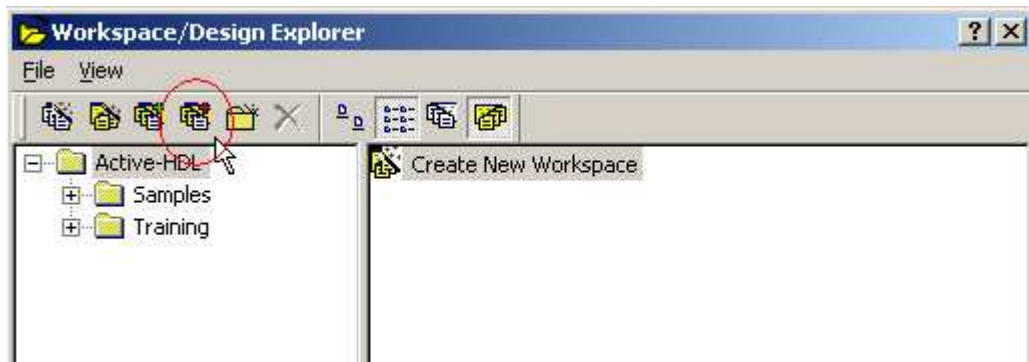

Figure 3
2. Click the “Attach And Open” button (Figure 3).